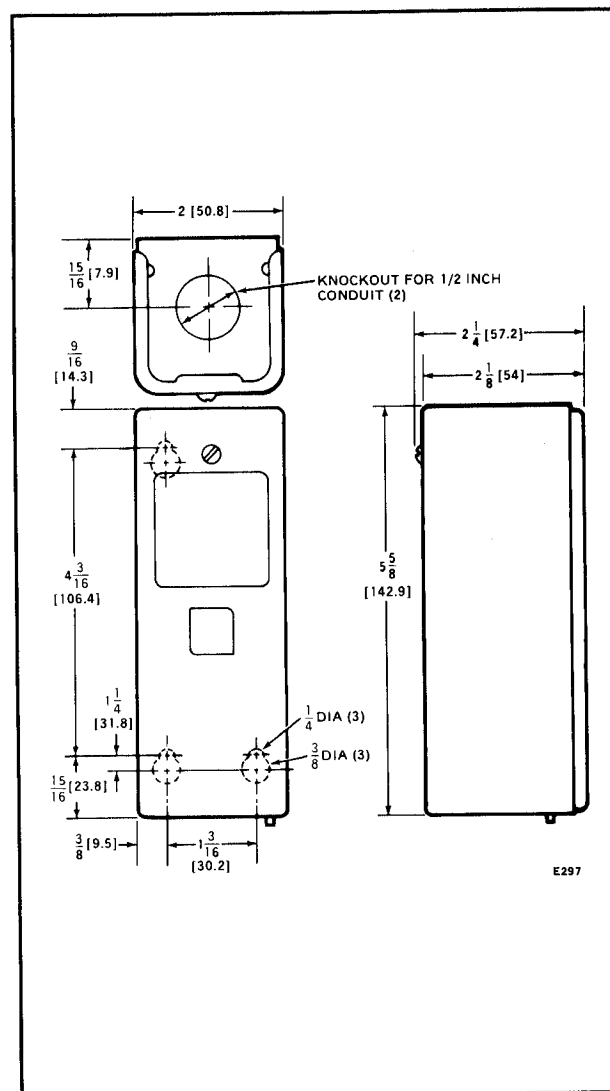

FIG. 1—MOUNTING DIMENSIONS OF T475A IN in. [mm IN BRACKETS].
**CONTROL CASE DIMENSIONS:** Refer to Fig. 1.
Refer to Fig. 1 for location of mounting holes. Remove the cover from the controller and fasten the case securely to a flat surface. The controller may be mounted in any position.